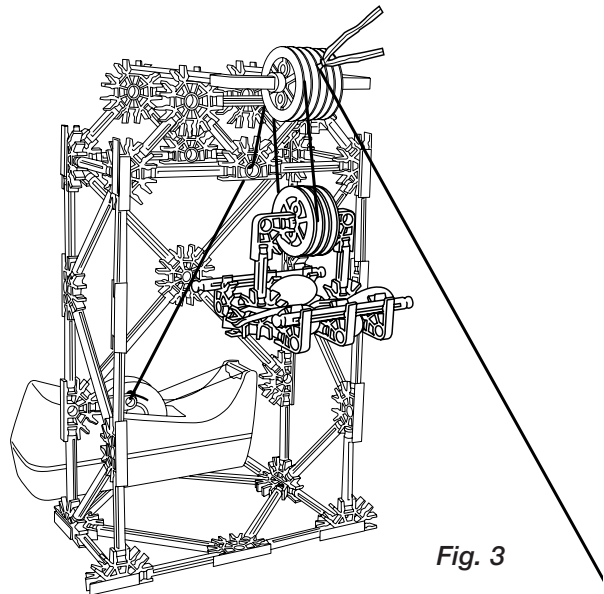

Fig. 3
3. Repeat Step 2 above, but this time tie a fastener, or twist tie, to the point where the string leaves the pulley. (See Fig. 3)